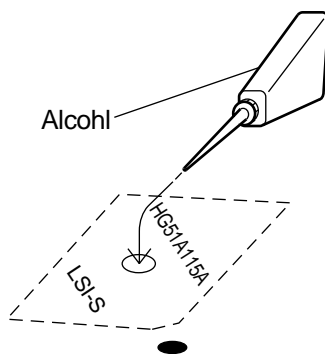

Fig.1
2. Apply plenty of the alcohol to the adhesive tape from the reverse side of the main PCB. (Fig.1)